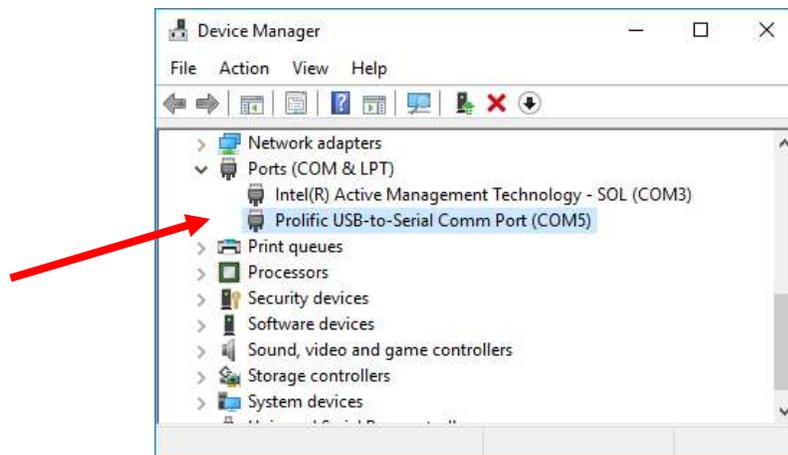

Figure 17: Windows Device Manager, USB-to-Serial Adapter COM5
2. If a USB-to-serial adapter is used, connect the USB-to-Serial adapter to the programming PC. Use Window's Device Manager utility to locate the adapter communications port (COM5 in the example, Figure 17).